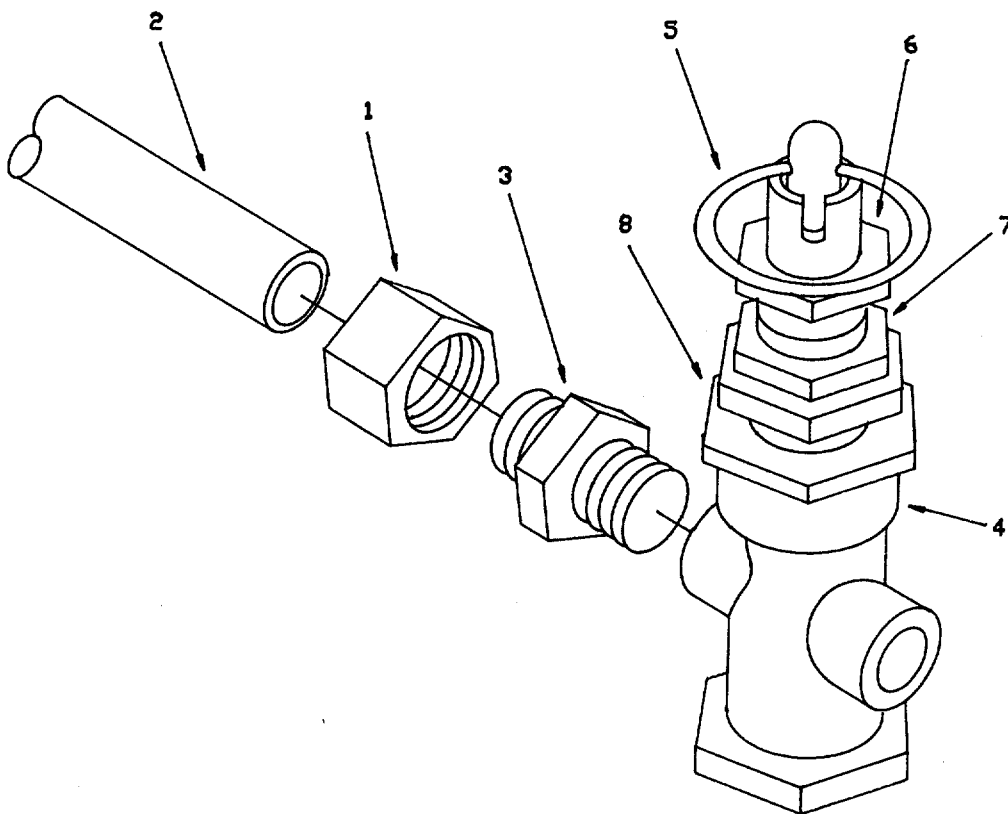

Figure 4-24. Pilot Valve.
- (2) Insure pilot valve is operating. Pull ring (5, figure 4-24) and make pressure adjustment to desired setting.
- (1) Loosen tube nut (1, Figure 4-24) and remove nonmetallic tubing (2).
- (2) Remove straight adaptor (3).
- (3) Unscrew pilot valve (4).
- (1) Install pilot valve (4, Figure 4-24).
- (2) Install straight adapter (3), nonmetallic tubing (2), and tighten tube nut (1).